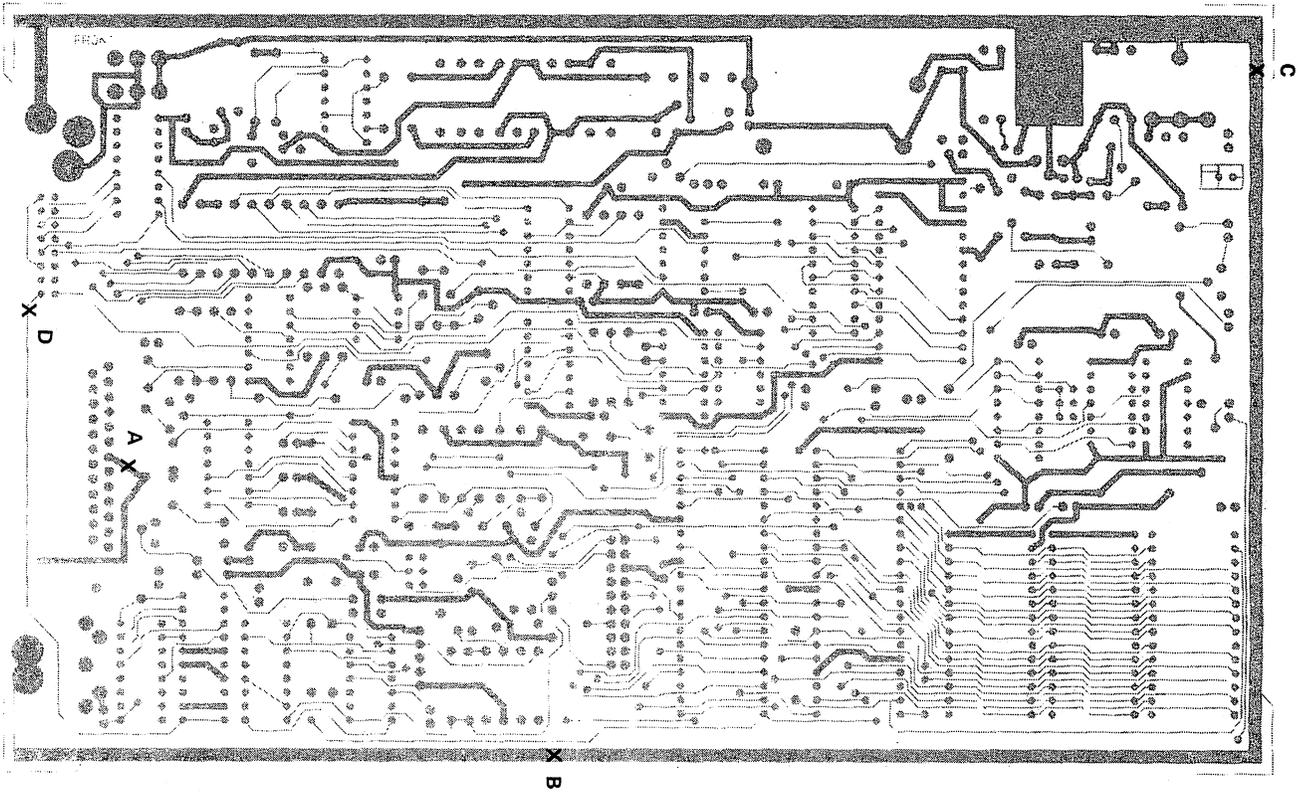

Figure 1 - TNC 2 REV 1 Component Side
All trace cuts and added parts are shown in the two illustrations that accompany this article. Figure 1 is the component side of the PC board, while Figure 2 is the solder side. Please refer to these figures when performing the modifications.
2. Break heavy ground trace between anode end of CR12 and RS-232 connector pin 7 (see cut A, Figure 1).
3. Cut the ground trace on the top of the board near the edge at the same location as in above step 2 (see cut B, Figure 1).
4. Cut the ground trace running (top of board) under the LEDs right where it joins the fatter trace leading towards BAT1 (see cut C, Figure 1).
4. Cut the trace supplying the clock signal to the MF-10 (now you can't easily use the MF-10 again -- think twice about cutting this trace!) (see cut D, figure 1).